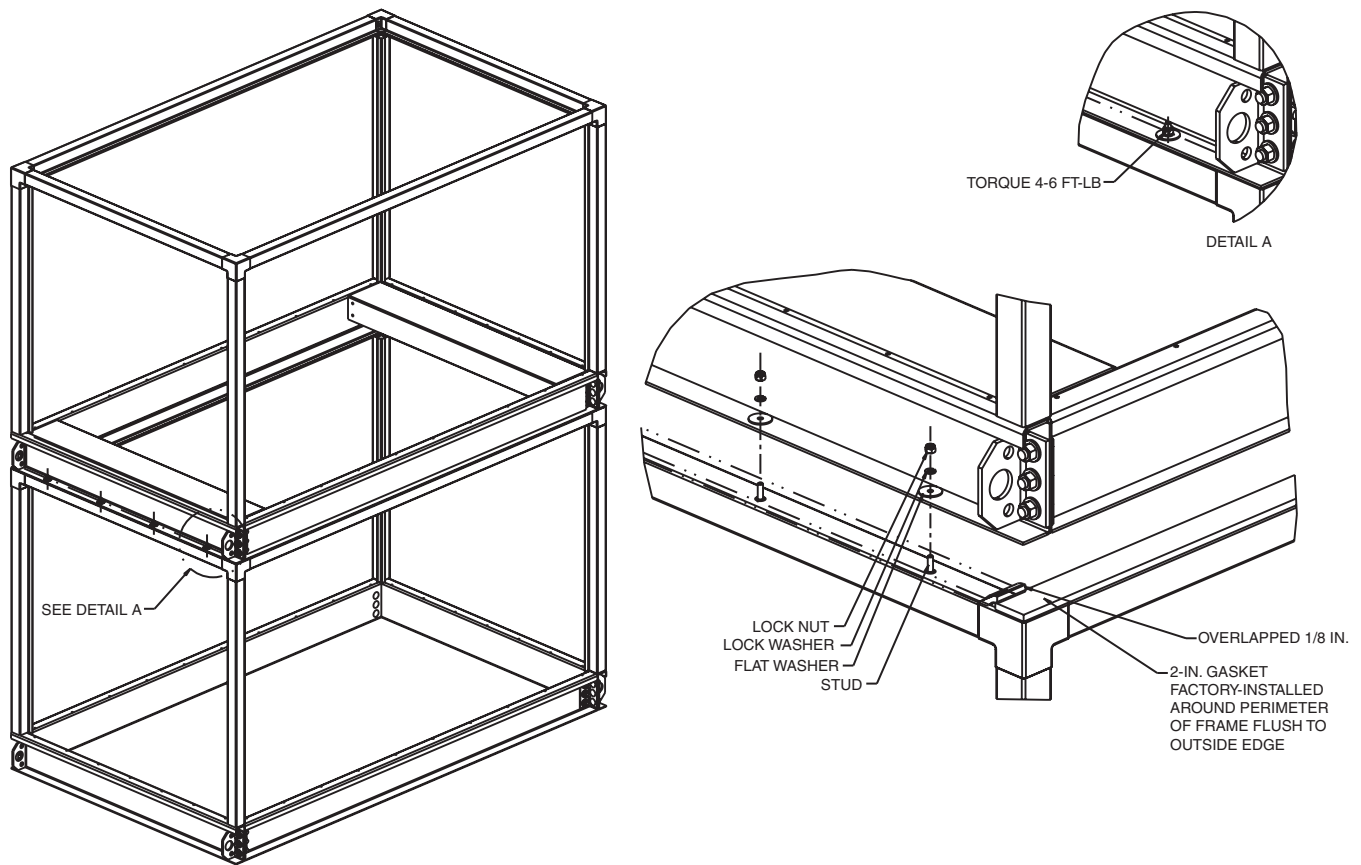

Fig. 42 — Securing Fan and Coil Sections Together
2. Secure the fan and coil sections together using the supplied flat washer, the lock washer and the lock nut onto the stud. See Fig. 42. Screw the base rail of the top unit to the top frame rail of the bottom unit.